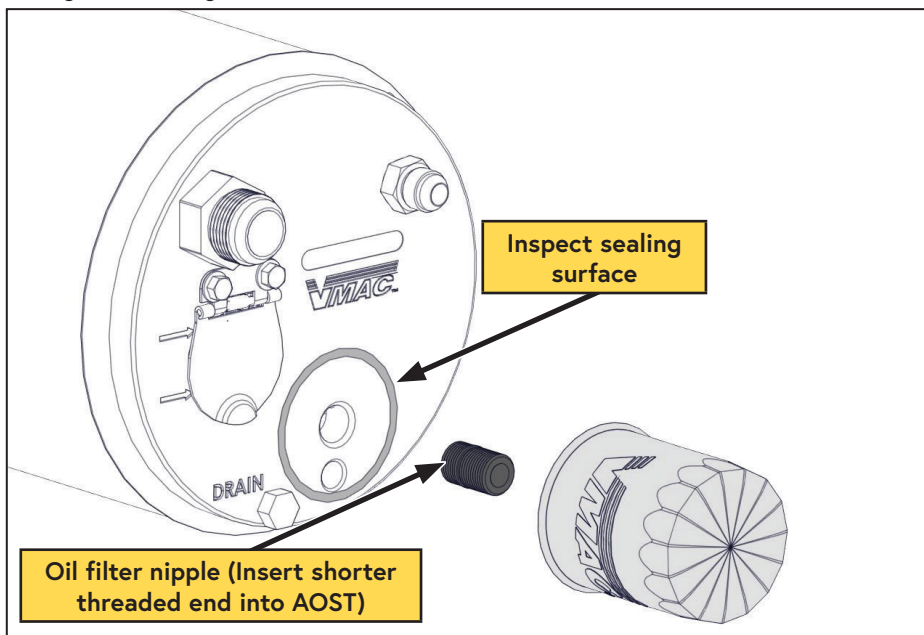

Figure 48 — Compressor oil filter
- ☐ \*To reinstall the nipple, thoroughly clean the threads and apply Loctite 242 (blue) to the end with the short threads and replace it in the AOST (Figure 48).
- ☐ Clean the gasket sealing surface on the front of the AOST and inspect it for damage. The surface must be free of old gasket material and smooth to ensure a good seal (Figure 48).